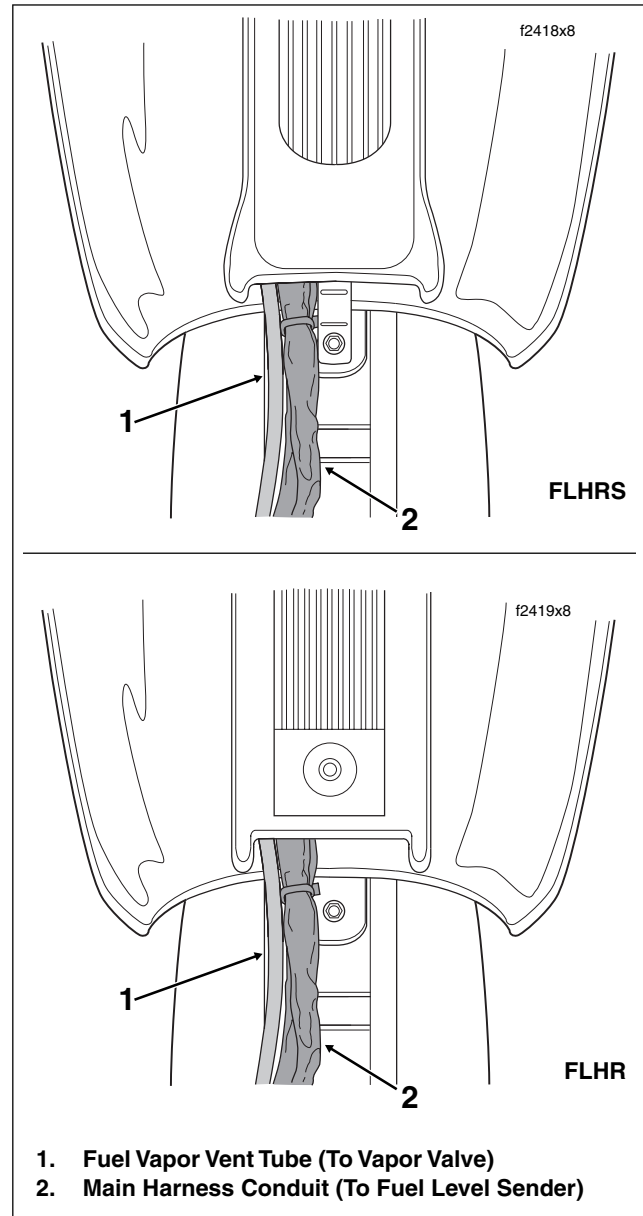

Figure 4-19. Console Cable/Hose Routing (FLHR/S)
9. Exercising caution to avoid pinching harness and vent tube, align hole in instrument console with console mounting bolt and place into position on fuel tank. See Figure 4-19.
6. Exercising caution to avoid pinching harness and vent tube, align hole in instrument console with console mounting bolt and place into position on fuel tank. See Figure 4-19.